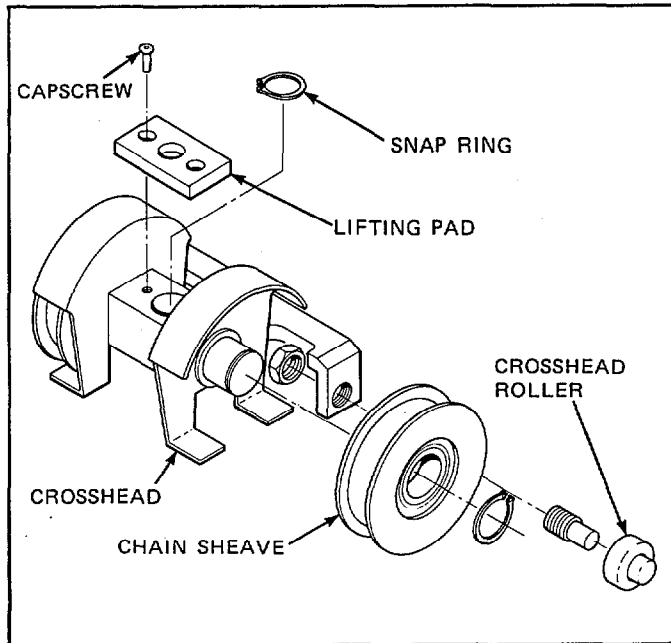

Figure 29. Crosshead Assembly
The crosshead, shown in Figure 29, is attached to the top of the hoist cylinder. Rollers attached to the crosshead move within guides on the inner upright assembly to guide the hoist cylinder as it extends and retracts. A pair of chain sheaves attached to the crosshead provide a rolling surface for the carriage hoist chains.
3. Remove the pad at the top of the cylinder crosshead. See Figure 29.